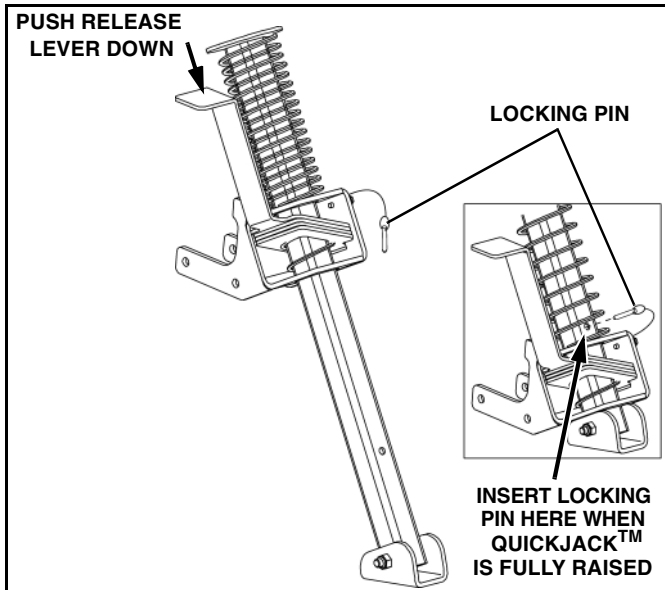

Figure 1-25
5. Raise QuickJack™ foot by pushing down on its release lever. Insert the locking pin in the QuickJack™ tube to prevent the jack from dropping during transport or plowing operations. (See Figure 1-25).
6. Release the foot, insert the foot locking pin (See Figure 1-25) and connect the lighting harness.